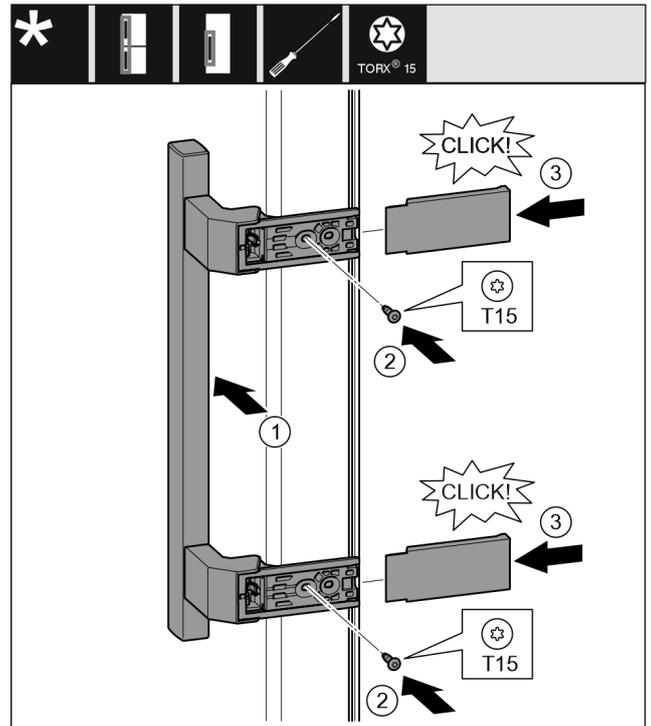

Fig. 23
- ▶ Position the handle on the other side. Fig. 23 (1)
- ▶ Tighten the screw with a T15 screwdriver. Fig. 23 (2)
- ▶ Position the covers on the side and push them on. Fig. 23 (3)